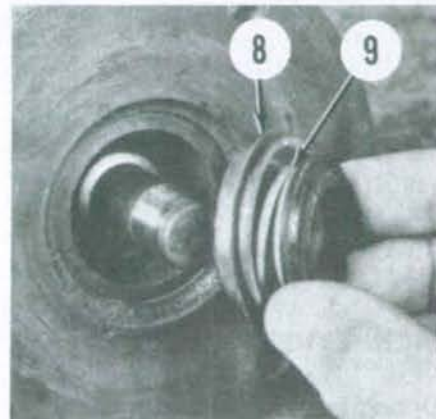
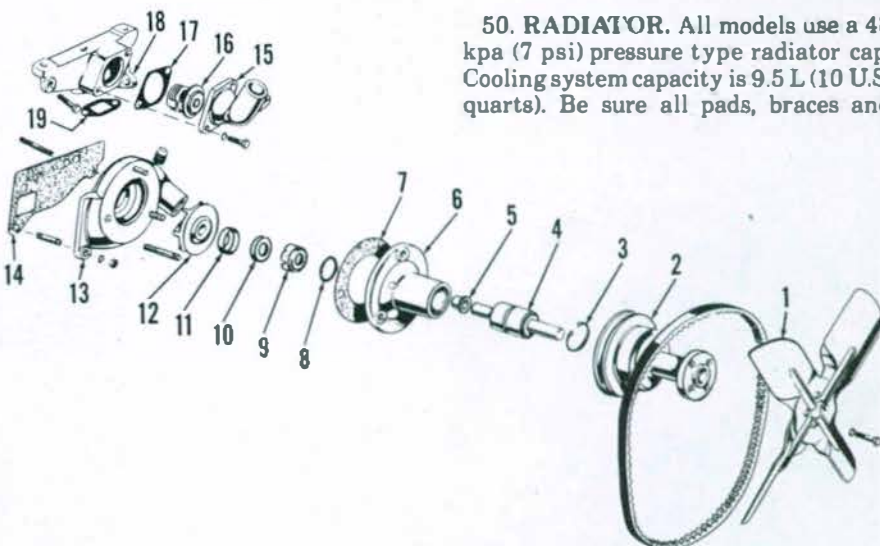
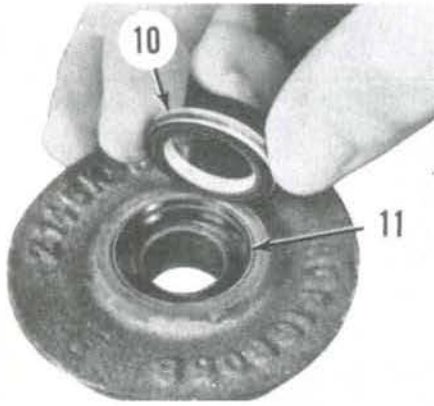

Fig. 52—The gasket (8) should be in position around seal as shown when installing the spring seal (9).
Fig. 51—Exploded view of water pump assembly used on gasoline models.
Fig. 53—Install the ceramic collar (10) into rubber retainer (11) with the three holes in collar toward the impeller.
Remove pulley (2—Fig. 51) using a puller attached to fan mounting hub. Remove snap ring (3), then press shaft and bearing (4) toward front out of impeller (12) and pump body (6).
To assemble, install slinger (5) onto short end of shaft (4), then press the shaft and bearing assembly into body (6) until bearing bottoms in bore. Install snapping (3). Coat outside of seal (9) with sealing compound, position gasket (8) around seal, then install in housing with carbon face toward impeller as shown in Fig. 52. Install the rubber collar retainer (11—Fig. 51) in bore of impeller (12), then insert ceramic collar (10) as shown in Fig. 53. Be sure side with three holes is toward impeller. Press impeller onto shaft with open side of blades out until